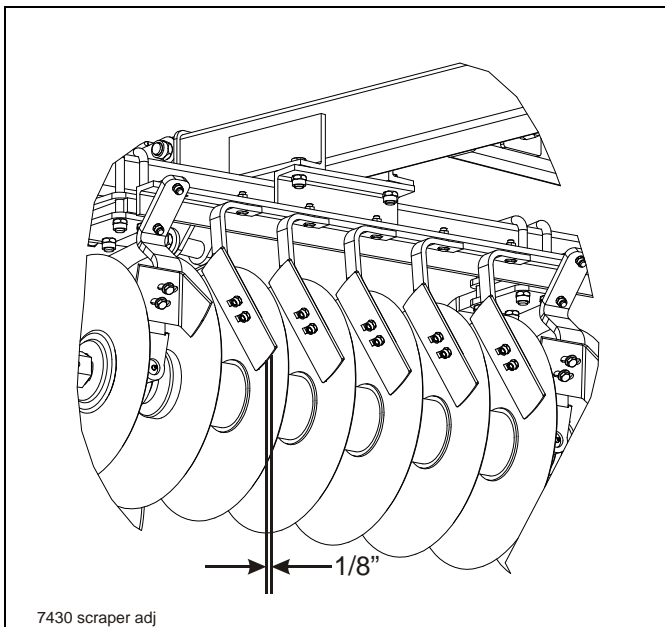

Figure 4-15: Scraper Adjustment
1. Rigid scrapers should be set initially as close to the disc blade as possible without rubbing (approximately 1/8") (See Figure 4-15.) A slotted hole at the top of each scraper is provided for individual adjustment. Adjustments may be made for entire gangs, by loosening the u-bolts around the angle-iron scraper bars and sliding the whole bar. Scraper arms are made of spring steel. In wet conditions, the scraper may be set against the disc blade and will function as a spring-loaded scraper.